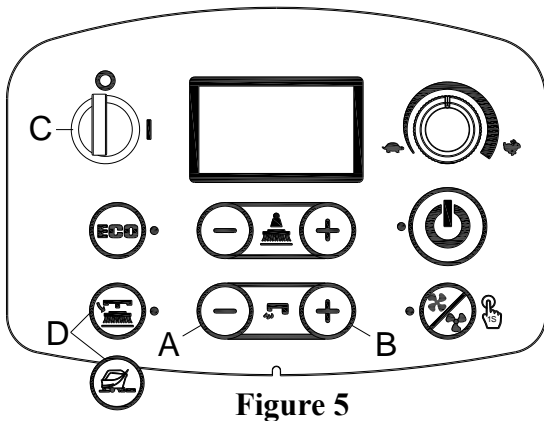
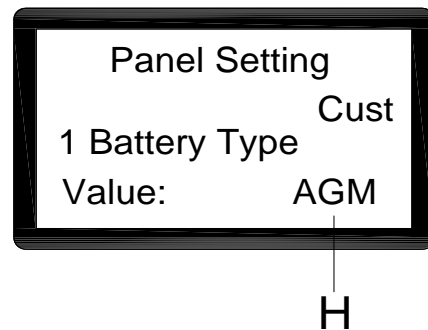

Figure 5
Figure 6
1. Press water flow button "+"(A, Figure. 5) and "-" (B, Figure. 5) at the same time.
2. Insert the ignition key (C, Figure. 5) and turn it to "I".
3. Several seconds later enter to the screen of selecting battery mode (Figure. 6)
4. Press water flow button "-"(A, Figure. 5) and "+"(B, Figure. 5) to select battery mode (H, Figure. 6)
5. Press the release button for dis version or the floor prep button for orbital version (D, Figure. 5), 3 seconds later show " Update OK" means setting succeeds, turn on to restart. (C, Figure. 5)